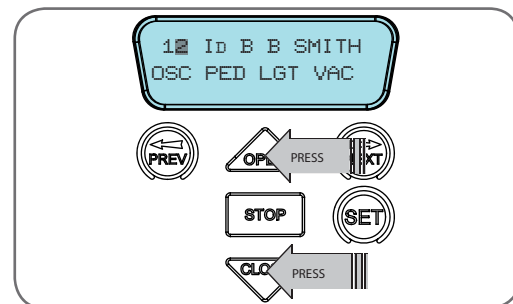

fig 35
1. Press the OPEN or CLOSE buttons to navigate through the list (Fig. 35).